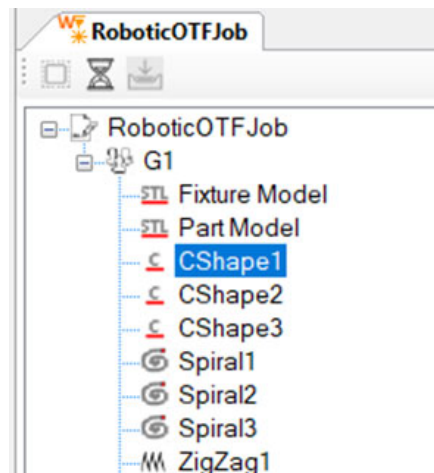

Figure 293: Selecting the Desired Process Object(s)
2. Select the desired Process Object(s) for alignment. See Figure 293 (below) as an example.